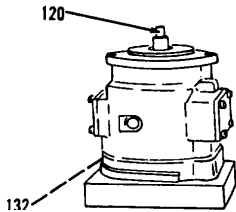

Figure 10-57.
- 88. Test hydraulic pump assembly. Fill the pump half full with oil. Turn pump shaft (120, Figure 10-57) with a torque wrench. Not more than 10 ft-lb torque must be used to start shaft turning and 7 ft-lb torque should be needed to keep pump turning. If torque required exceeds these specifications, pump must be disassembled to locate the problem.